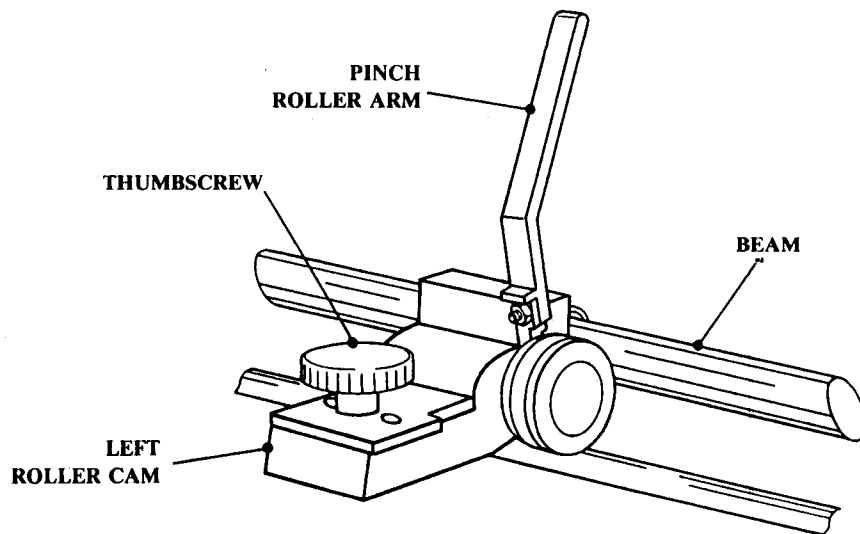

FIGURE 1-4. LEFT PINCH ROLLER ASSEMBLY THUMBSCREW
1. Raise the pinch roller arm of the left pinch roller assembly. Loosen the thumbscrew on top of the left pinch roller assembly by turning it counterclockwise until the pinch roller assembly can slide freely on the beam (see Figure 1-4).